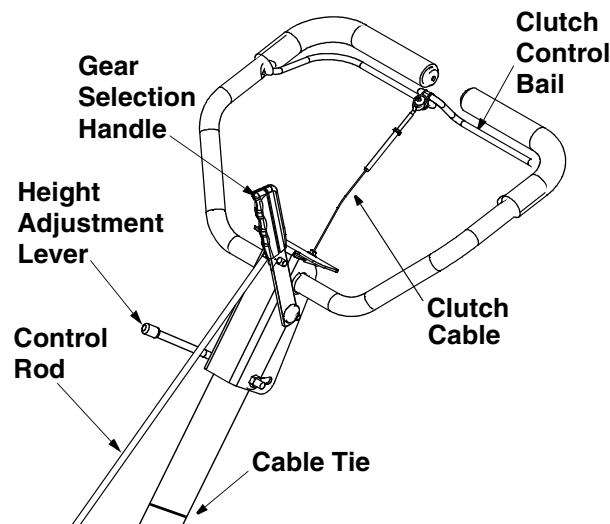

Figure 6
Secure clutch cable to handle using cable tie. Refer to Figure 6. Cut off excess end of cable tie.
- Insert the longer end of the control rod through the hole in the gear selector handle and secure with hairpin clip. See Figure 6.
top of shift cover points to the operating mode desired. See Figure 6.
The clutch control bail is located below the handle. See Figure 6. Lifting the clutch control bail against the handle engages the wheel and tine drive mechanisms.